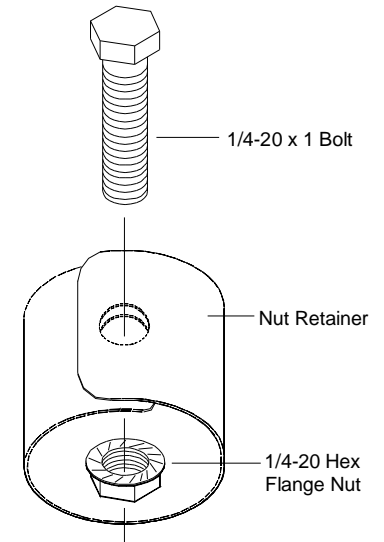

Fig. 2 Nut Retainer
1. Place a 1/4-20 x 1" bolt through the hole in the Nut Retainer. (See Fig. 2)
**D.** Attach one end of each Telescoping Tube Assembly to each of the Angle Brackets using one (1) 1/4-20 x 1" bolt and nut, and the other end of the Telescoping Tube to the Chimney Support Band using one (1) 1/4-20 x 1/2 Carriage bolt and nut. The flattened tube ends can be bent as necessary.
**F.** Remove the nails which temporarily are holding the Angle Brackets. Secure the Angle Brackets to the roof structure using two (2) 1/4 x 2" lag Bolts for each Bracket.